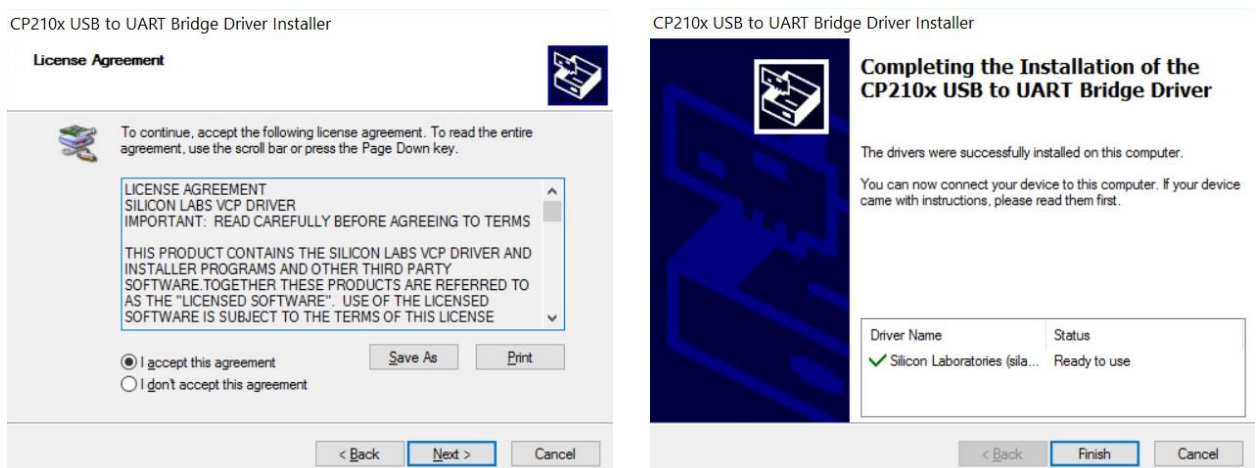

Figure 31 – Acceptance of the License agreement and successful installation notification USB driver window
- 3) After accepting User License Agreement (see figure 31) the installation process will be continued. During installation, please follow the instructions of Bridge Driver Installer.